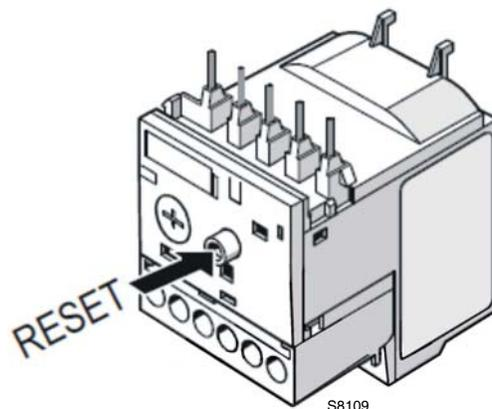

Fig. 25
- To reset, in the case of an intervention of the thermal relay, press the button "RESET" (Fig. 25).